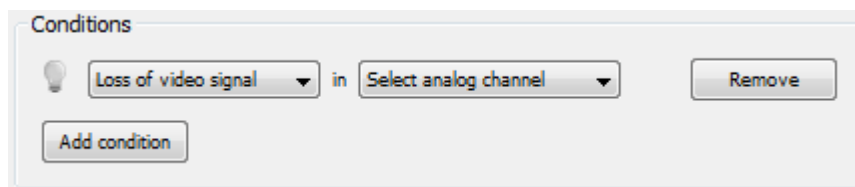

Figure 5.7: Add condition.
- Add a condition to the rule (Figure 5.7).